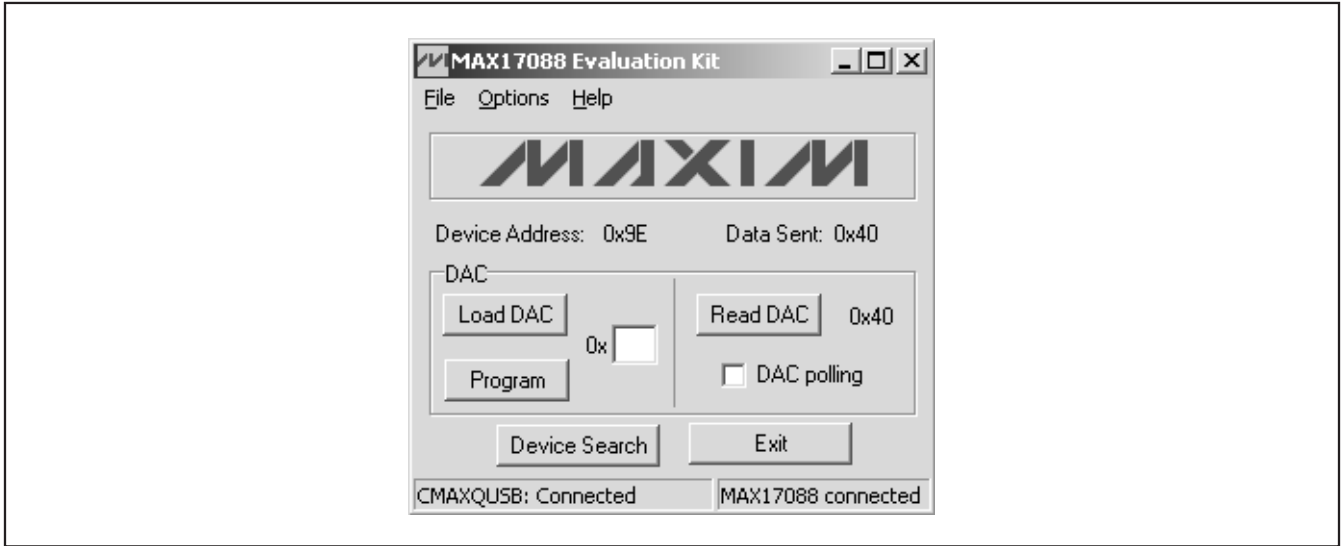
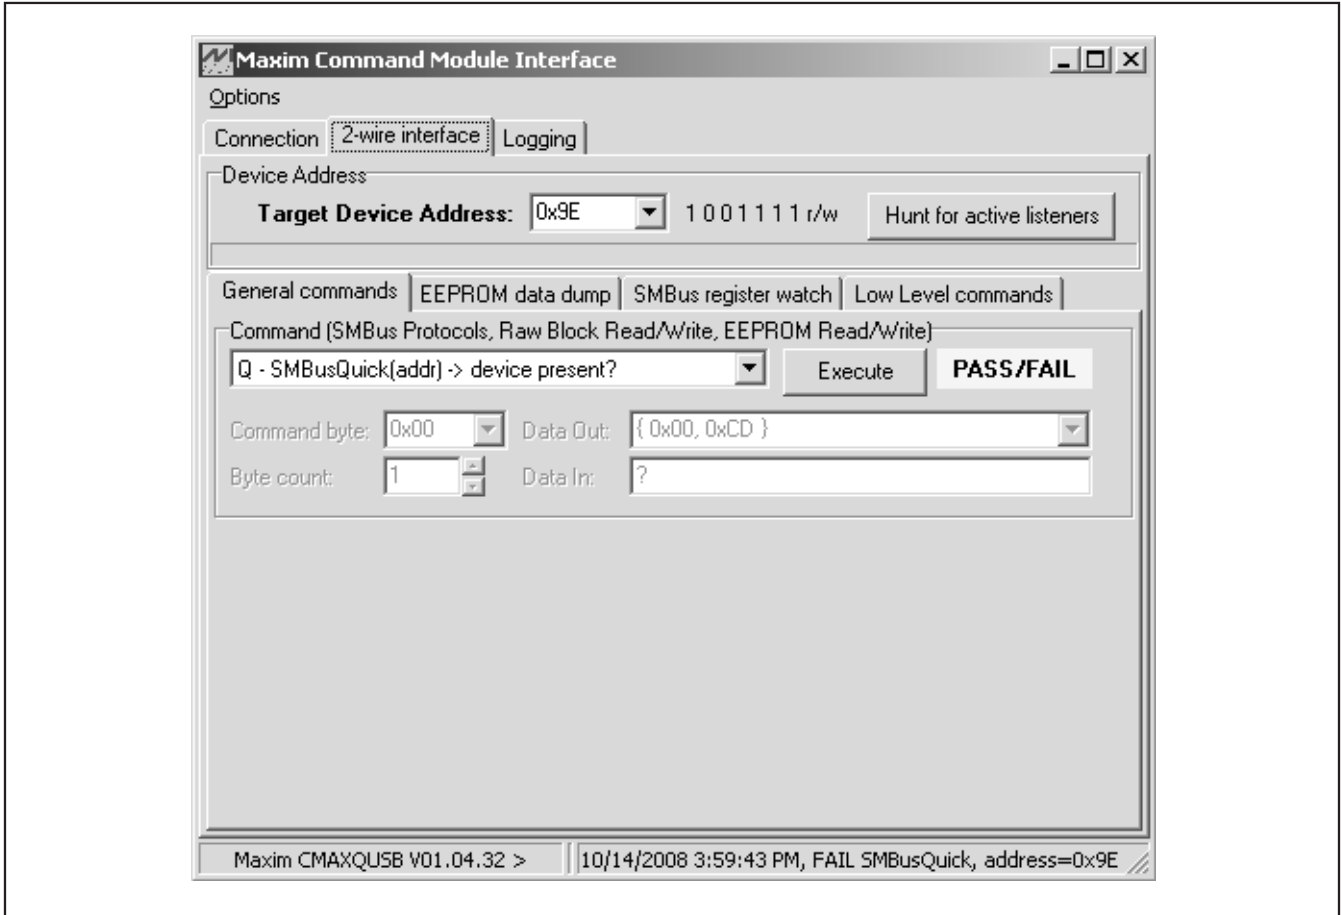

Figure 1. MAX17088 EV Kit Software Main Window
Figure 2. Command Module Interface Window
- 9) Normal device operation is verified when **MAX17088 connected** is displayed in the **status bar** on the MAX17088 EV kit main window (Figure 1).
The DAC setting corresponds to a certain sink-current level, which in turn corresponds to a specific VCOM voltage. With the MAX17088 EV kit software, the device's 7-bit internal DAC is configured by entering an appropriate DAC setting into the **DAC** edit box. The DAC setting can be set from 0x00 (VCOM_{MAX}) to 0x7F (VCOM_{MIN}). The DAC setting is written to the device by pressing the **Load DAC** button (Figure 1).
There are two methods for communicating with the MAX17088, through the MAX17088 EV kit software main window (Figure 1), or through the interface window available by selecting the **Options | Interface** menu item from the menu bar. The Maxim command module interface window (Figure 2) includes a **2-wire interface** tab that allows for execution of the **SMBusSendByte()**, **SMBusReceiveByte()**, and **SMBusQuick()** commands. See Table 3 for details regarding SMBus commands. The **Command byte** combo box accepts numeric data in binary, decimal, or hexadecimal. Hexadecimal numbers should be prefixed by \$ or 0x. Binary numbers must be exactly eight digits. See Figure 2 for an illustration of this tool.